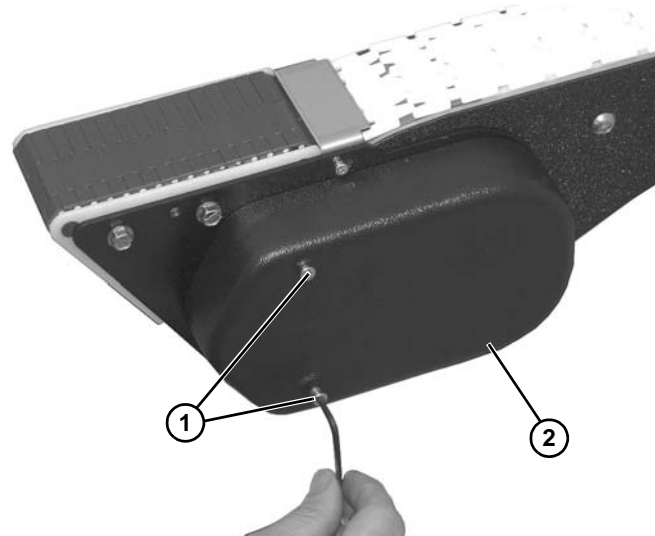

Figure 124
1. Remove two socket head screws (Figure 124, item 1) and cover (Figure 124, item 2) from power transfer assembly.